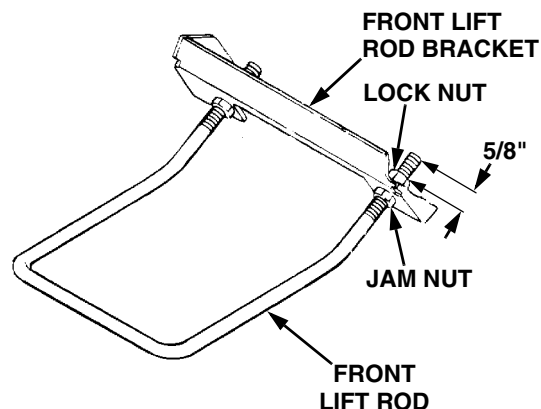

Figure 31
- Initially adjust the front lift rod to allow approximately 5/8 inch of thread to protrude beyond both lock nuts of the front lift rod/bracket assembly (See Figure 31).
- To adjust the downward tilt of the blades, adjustment of the front lift rod is required. Refer to Figure 31 and proceed as follows: